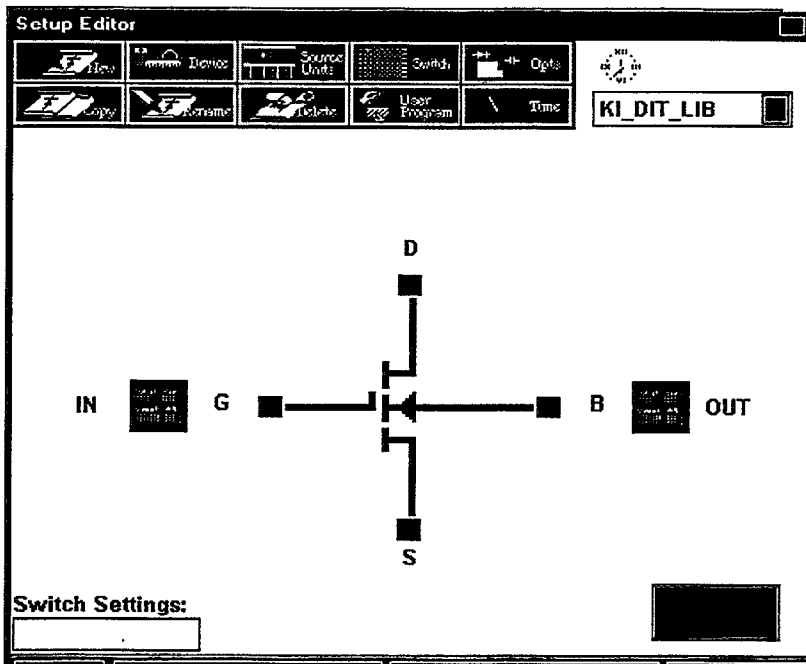

Figure 5 Instrument Setup Editor Window
1. Click on the **Setup** button; the instrument setup editor window will appear. (See Figure 5.)